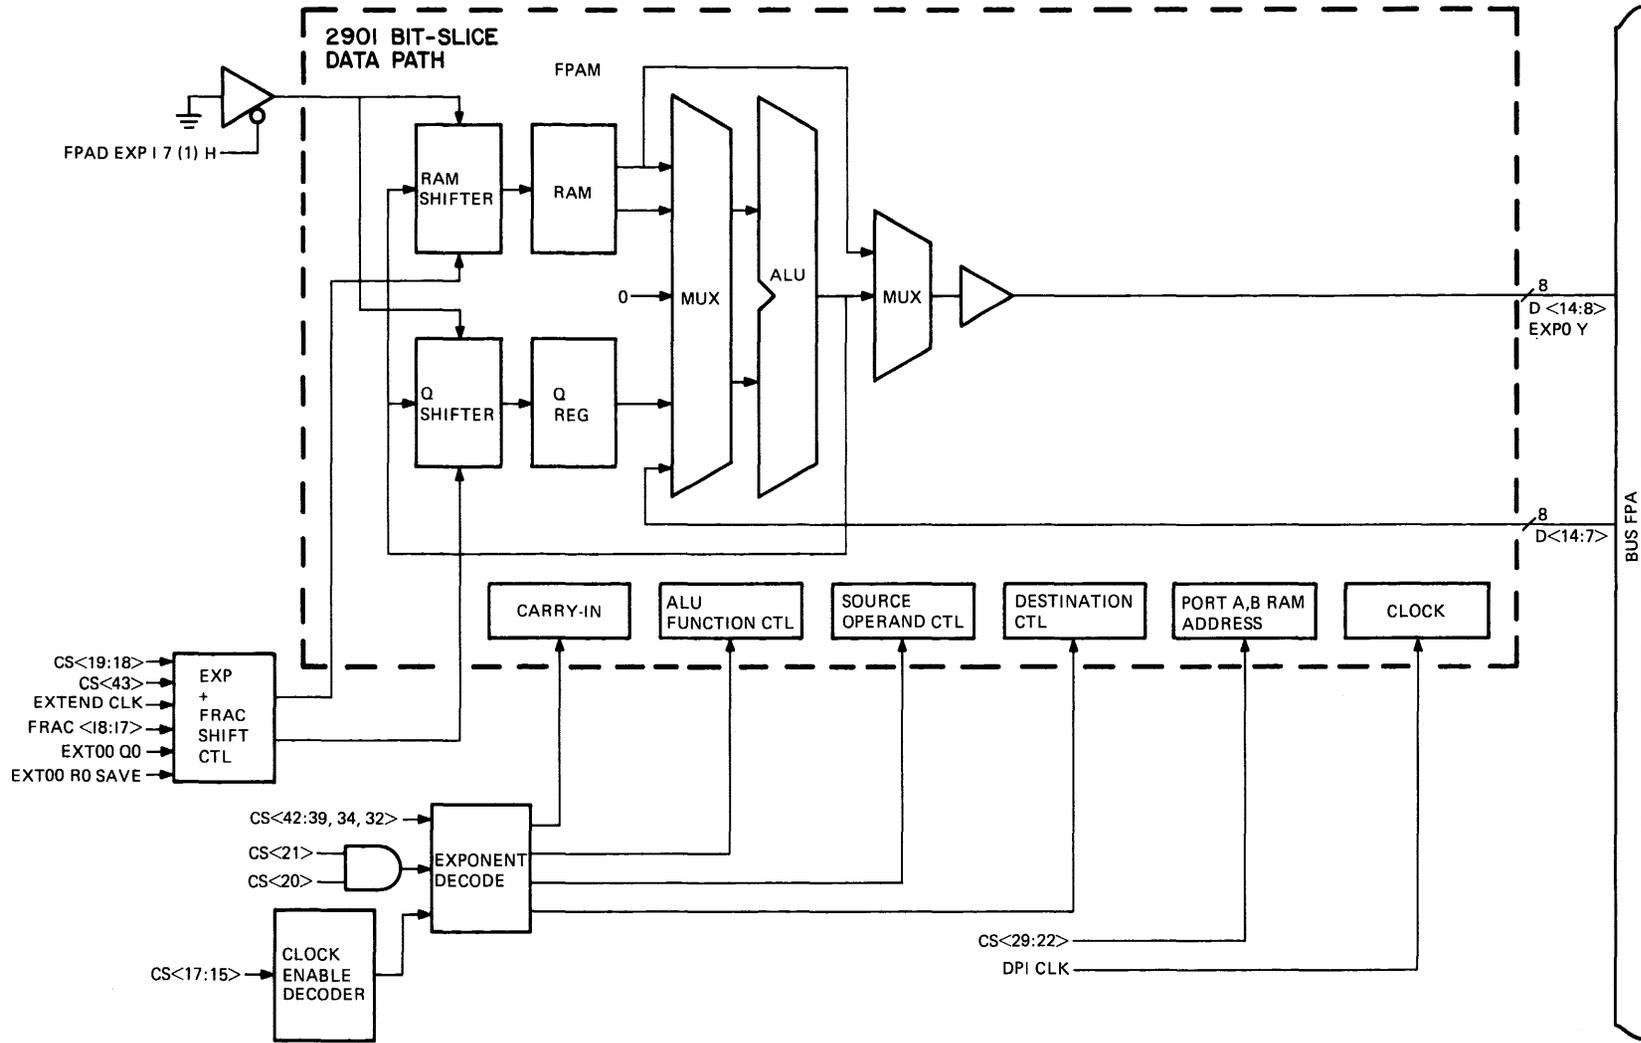

Figure 5-21 Exponent Data Path Logic
The exponent data path (Figure 5-21) is used for exponent operations, loop counting, and overflow and underflow testing. The exponent data path consists of four 4-bit microprocessors, each containing 16 working registers (WR). All 16 WRs are addressed via EXP A/B ADDR 3:0 from the control store. Some of the WRs contain constants which are listed in Table 5-6.